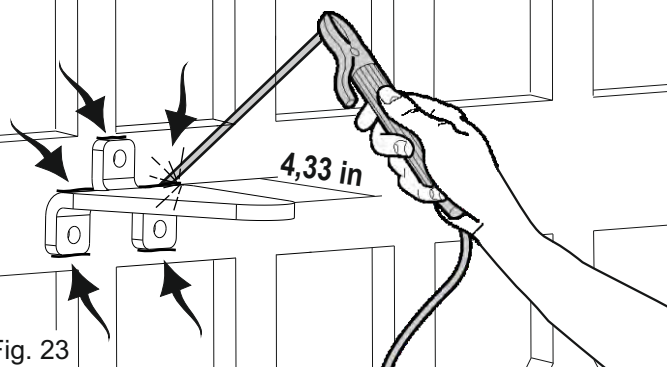

Fig. 23
- 2) Weld the front fixation bracket on the gate operating on the the points indicated by the arrows (Fig. 23)